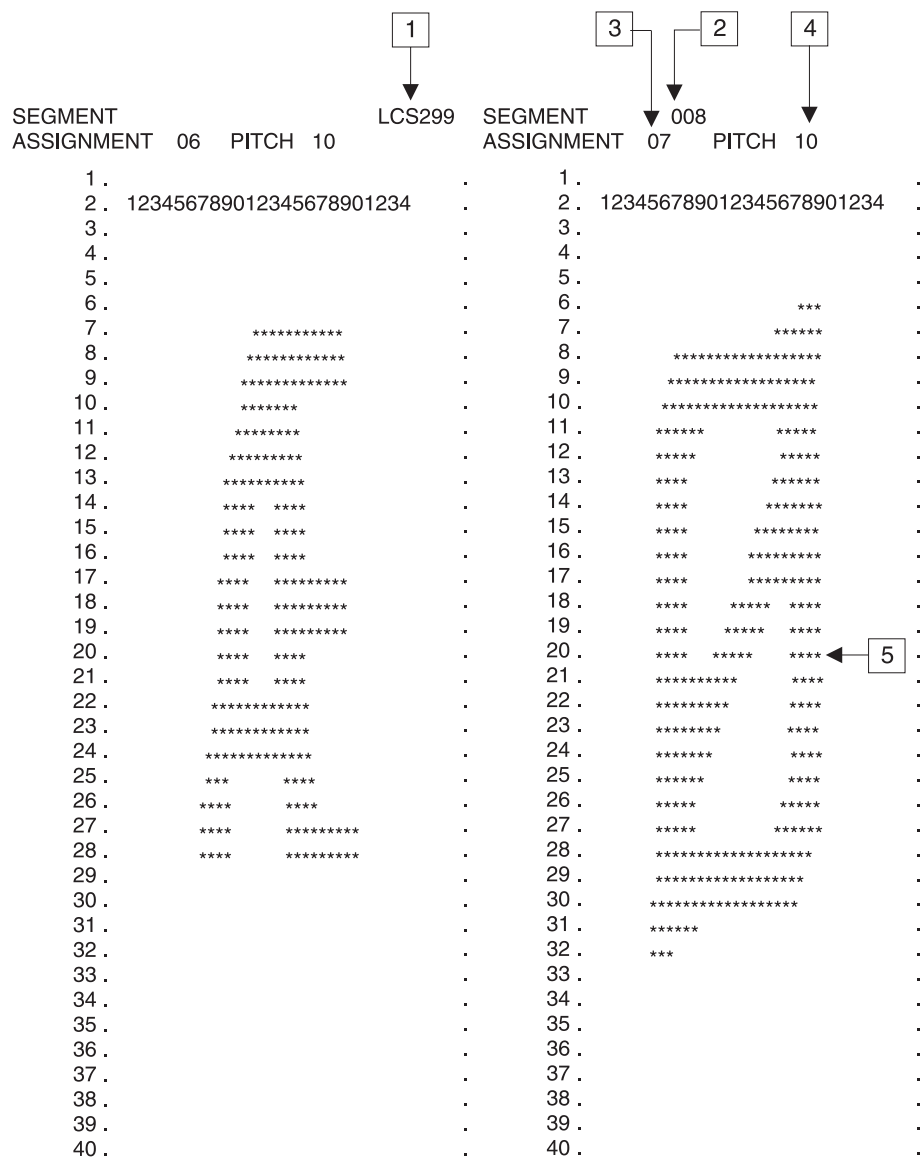

Figure 37. IEBIMAGE Listing of Two Segments of a Library Character Set
Figure 37 shows an extract from a listing of a library character set module. This extract contains the listing of two segments of the library character set. The numbered notes that follow the figure describe the items marked with the encircled numbers.
**Notes to Figure 37:**